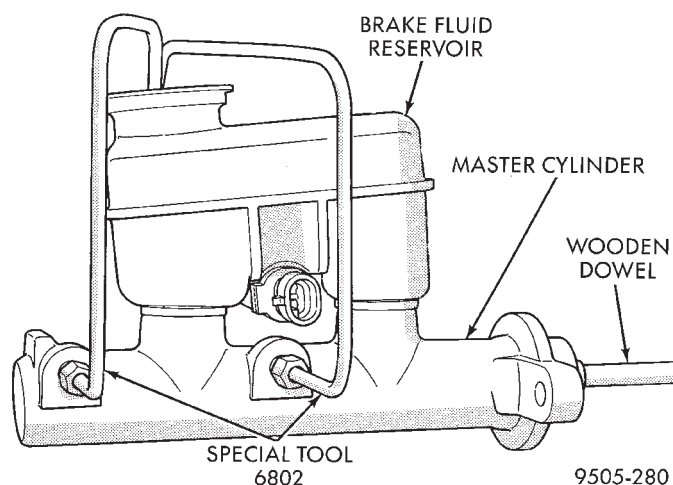

Fig. 34 Bleeding Master Cylinder
(2) Fill brake fluid reservoir with brake fluid conforming to DOT 3 specifications such as Mopar or an Equivalent.
(3) Using a wooden dowel per (Fig. 34). Depress push rod slowly, and then allow pistons to return to the released position. Continue to repeat this step several times after no more air bubbles are expelled from bleed tubes to ensure all air is bled from the master cylinder.